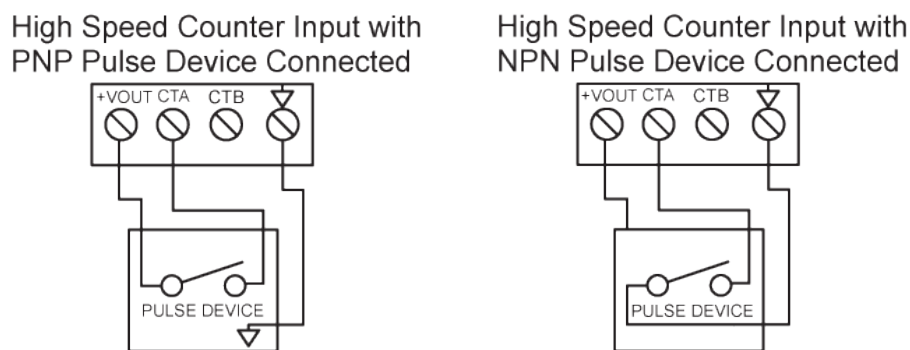
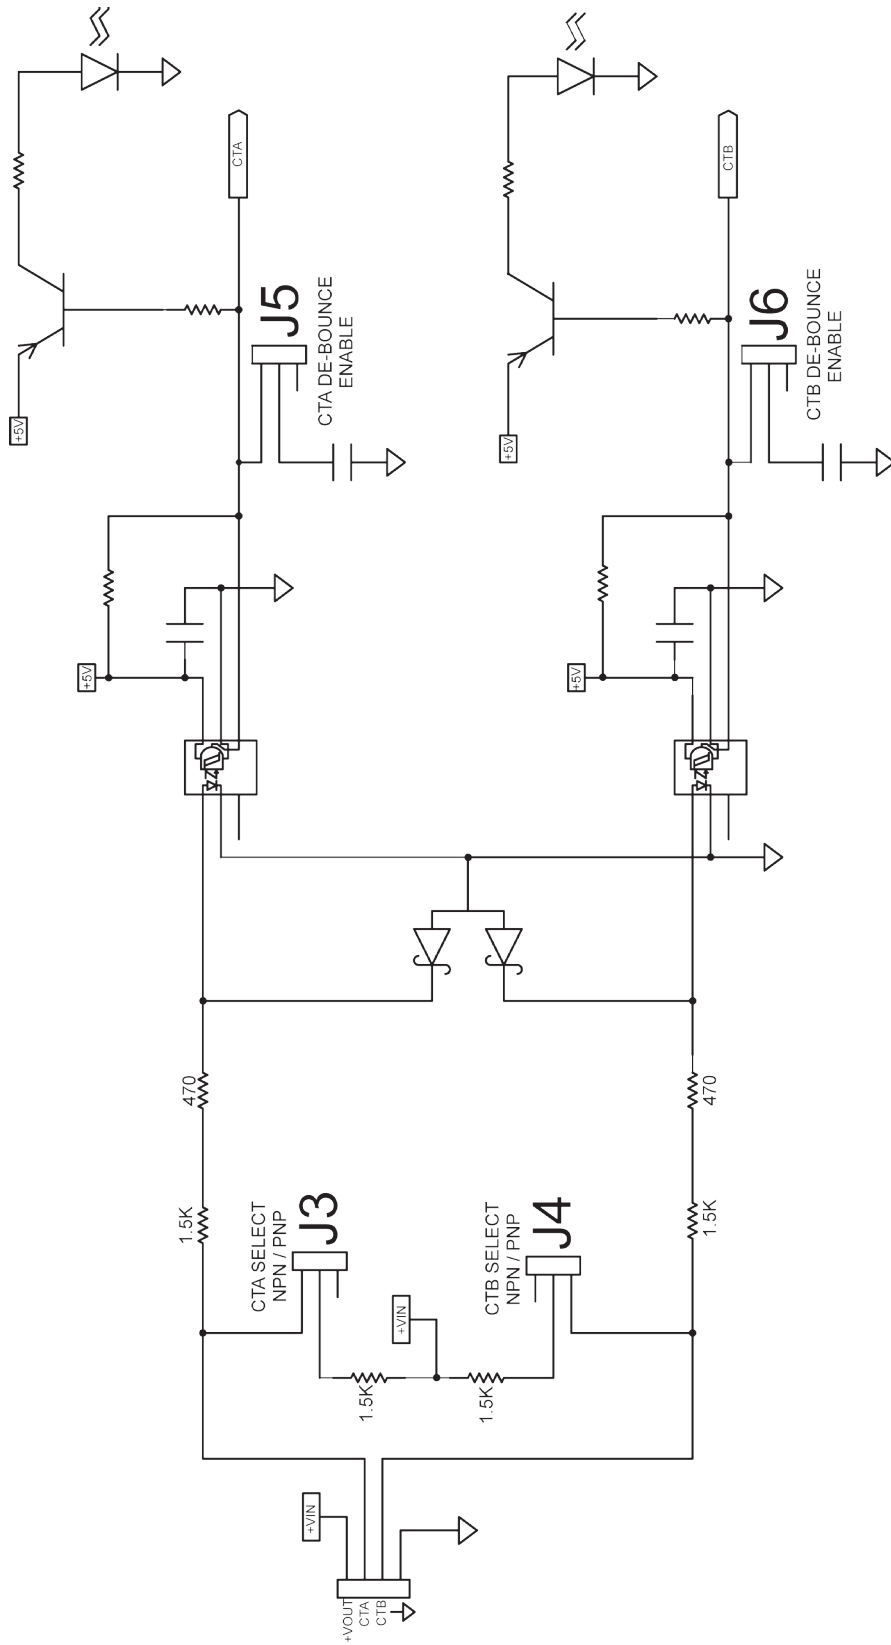

Figure 2.5 - Typical High Speed Counter Input Connections
Figure 2.6 - High Speed Counter Input Circuitry
In addition to the twelve (12) digital inputs, the VB-1000 also provides two high speed counter inputs. These two inputs may be used in the ladder diagram program as standard digital inputs using contacts (CTA and CTB) or as high speed counter inputs using the CNTRTMR function. Each digital input can accept an input voltage of 8-32VDC and is optically isolated. Refer to Figure 2.5 for typical connections. Figure 2.6 represents the actual high speed counter input circuitry. The +VOUT terminal is provided to connect the power terminal of pulse devices to the input power of the controller. The ↓ terminal is used as common for the pulse devices.
The High Speed Counter Inputs CTA and CTB may be configured to interface to NPN or PNP input devices as shown in Figure 2.5. When configured for PNP, the input device sources the power to the counter input. When configured for NPN, the counter input is pulled to common and an internal pull-up resistor is enabled on the counter input.